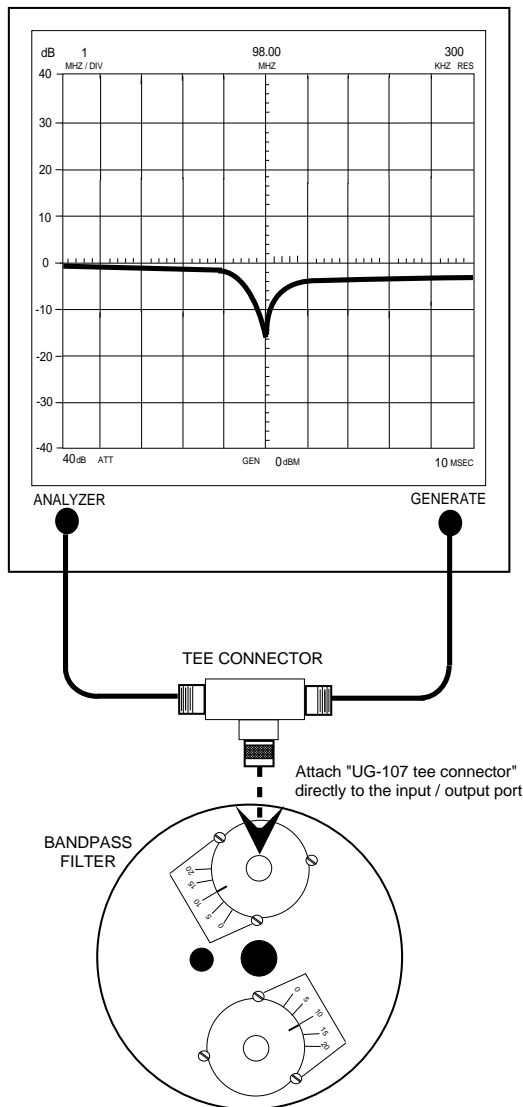

Figure 4: Measuring the rejection notch.
3. Measure its rejection notch as shown in figure 4 and record the value for comparison with the unlabeled port. The amplitude of the rejection notch is directly proportional to the insertion loss.